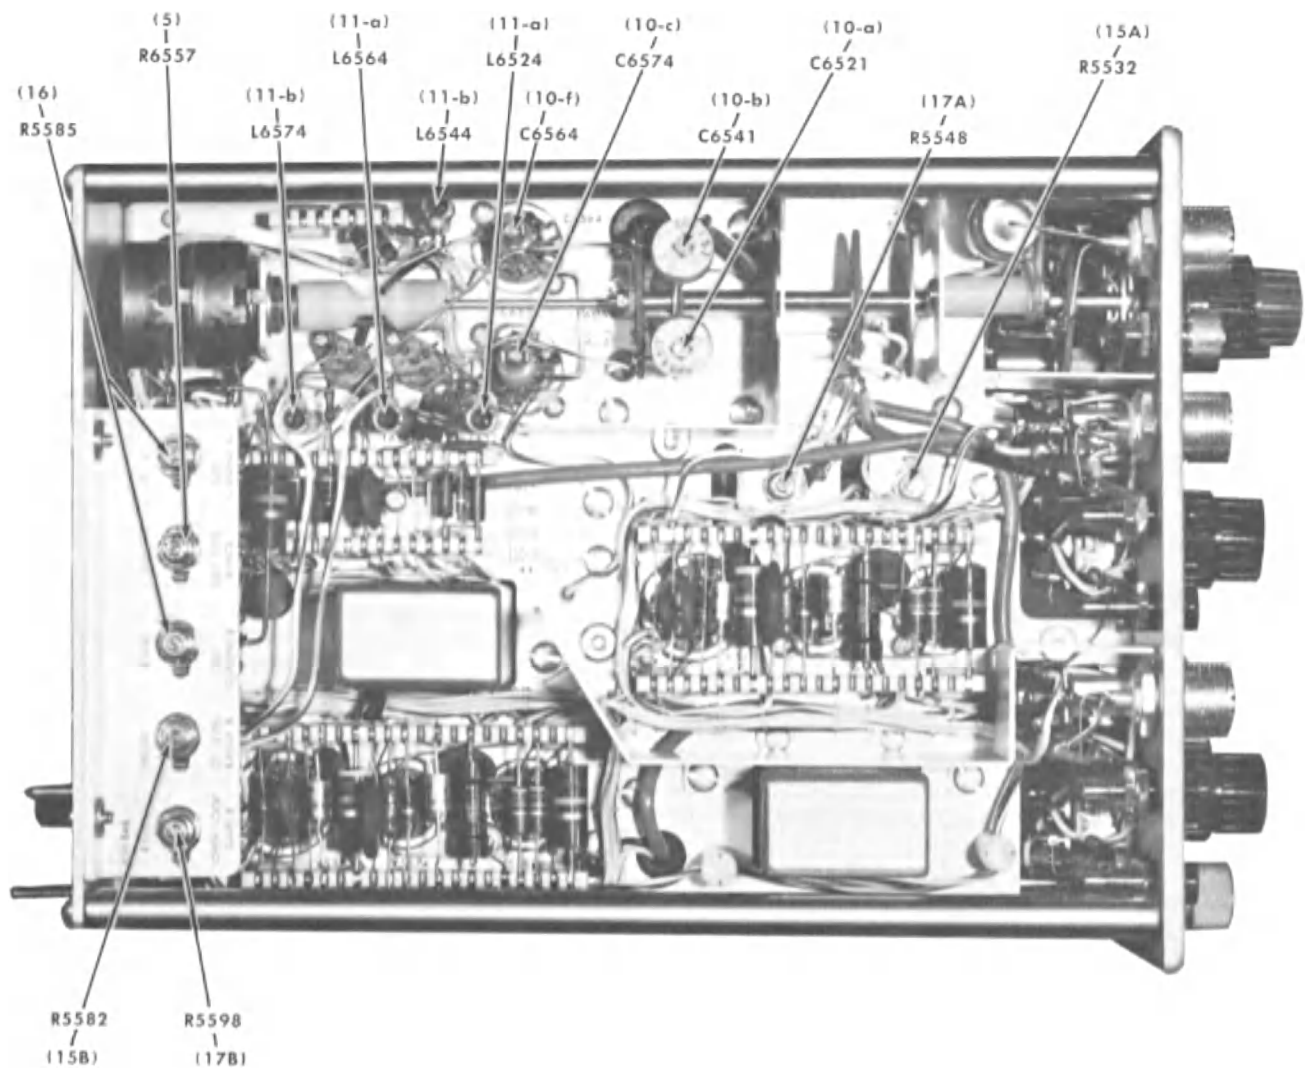

Fig. 7-2. Location of calibration adjustments. Numbers in parenthesis refer to steps in adjustment procedure.
Set the O Unit POSITION control to midrange. Then adjust the VERT. POS. RANGE control, R6557, until the trace is at the previously determined electrical center. The VERT. POS. RANGE control is illustrated as (5), Fig. 7-2.
a. Adjust C6521 [(10-a), Fig. 7-2] for an optimum flat-top display.
b. Set the VERTICAL DISPLAY switch to — DC and adjust C6541 [(10-b), Fig. 7-2] for an optimum flat-top display.
c. Set the VERTICAL DISPLAY switch back to + DC and set the VARIABLE VOLTS/CM control for minimum gain. Increase the Type 105 output for 3.5 cm of crt display. Adjust C6574 [(10-c), Fig. 7-2] for an optimum flat-top display.
f. Repeat this procedure first with C6541 and then C6564 [(10-f), Fig. 7-2] with the VERTICAL DISPLAY switch at — DC.
a. Adjust L6524 and L6564 [(11-a), Fig. 7-2] for optimum waveform.
b. Set the VERTICAL DISPLAY switch to — DC and adjust L6544 and L6574 [(11-b), Fig. 7-2] for optimum waveform.
b. Push the OUTPUT DC LEVEL switch to the ADJ. position and hold it there while adjusting the DC LEVEL RANGE (R5532 for A, R5582 for B) to bring the trace near the position it occupied when the ZERO CHECK button was pushed. See Fig. 7-2, (15A) or (15B).